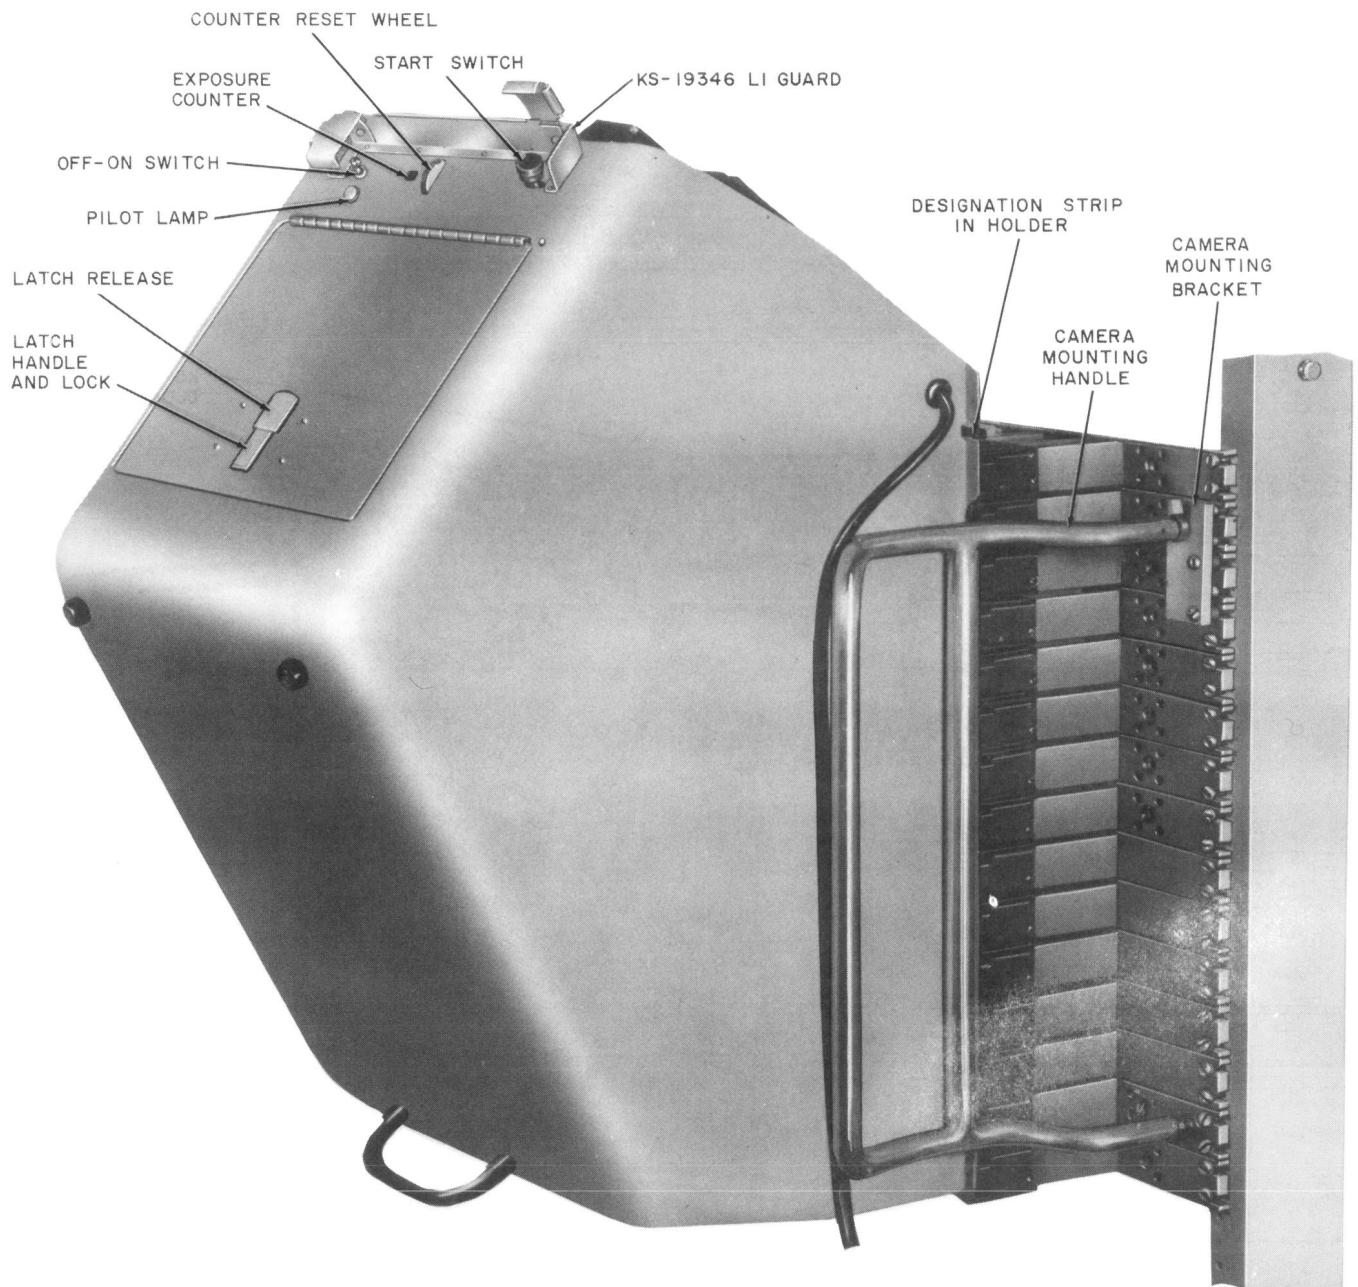

Fig. 1—KS-14776 Camera—Front View
Hood and Associated Apparatus—Fig. 1, 2, and 3
1.09 The hood of the KS-14776 camera is arranged for attachment to mounting brackets which are mounted on the traffic register frame. The hood is equipped with mounting handles, the legs of which engage the brackets on the frame as shown in Fig. 1. This arrangement permits the camera to be readily detached from the frame for loading, unloading, and maintenance.
- (b) Check that the camera mounting brackets have been correctly mounted on the traffic register frame. Figure 1 shows the brackets mounted in the proper position with respect to the top row of registers to be photographed. The position shown is correct for both upper and lower cameras where two cameras are used.
- 4.05** Prepare the designation strip as covered in 7.01. Insert it in the holder at the right side of the hood (Fig. 1). If other identifying information is required, locate it as covered in 7.02.